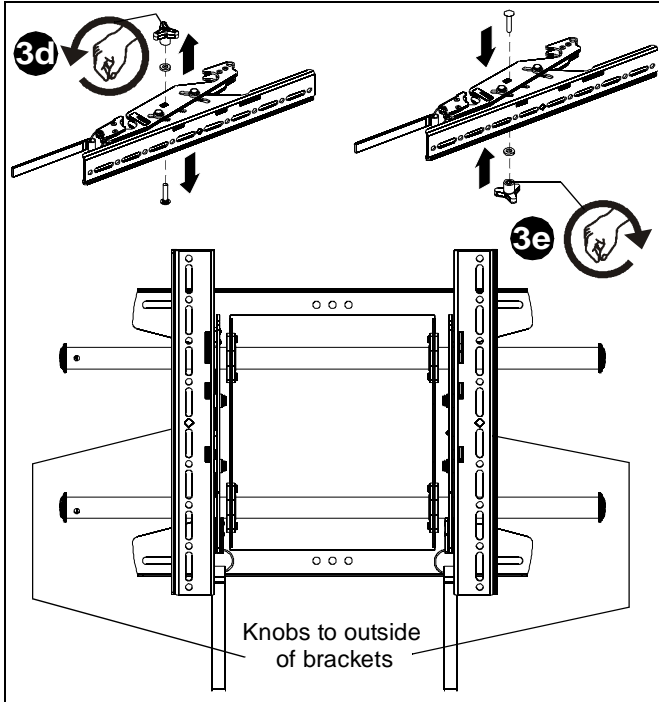

Figure 7
- If necessary, the tilt interface bracket knobs may be switched to allow the interface brackets to be reversed. (See Figure 7)